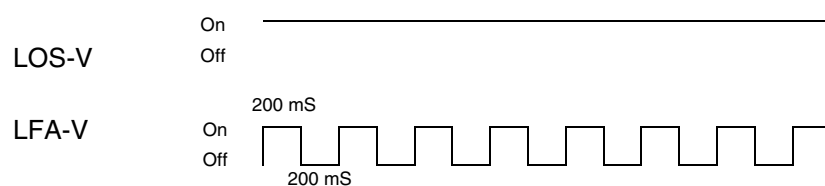

Fig. 2.195 Visual signalling LOS/LFA/Training of the GTU4 LEDs
1) Visual signalling according to Fig. 2.195